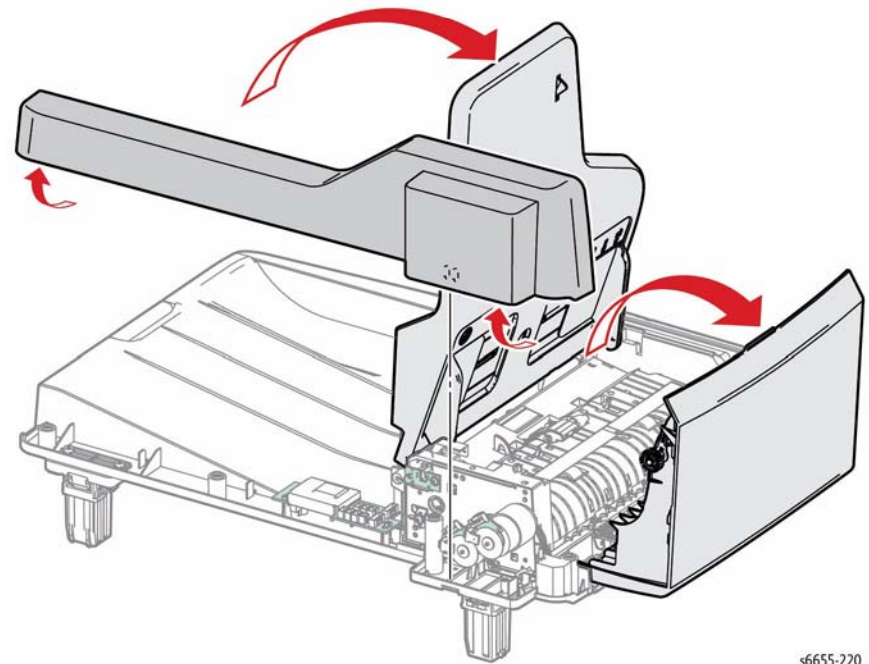

Figure 2 Remove the DADF Rear Cover
3. Turn the DADF upright and refer to Figure 2 to raise the DADF Top Cover and Input Tray Assembly to release the rear cover.